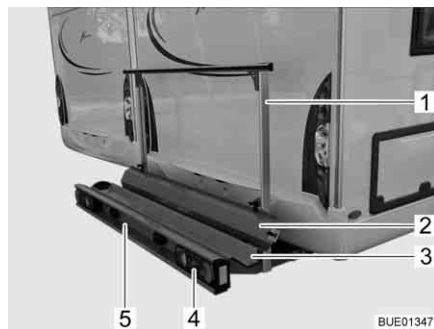
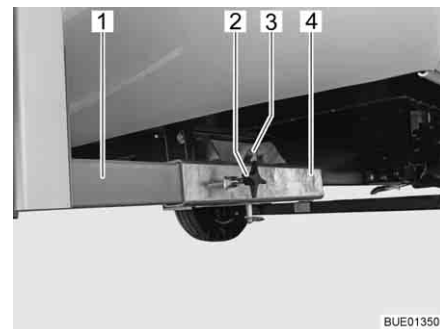

Fig. 8 Load rack
Fig. 9 Attachment to vehicle
The load rack (Fig. 8) permits transport of a motorcycle or a motor scooter weighing up to 130 kg.
- Rack trough (Fig. 8,3) and retaining clip (Fig. 8,1) with attachment to vehicle (Fig. 9)
- Rear lights (Fig. 8,4)
- Vehicle licence plate light (Fig. 8,5)
- Ramp (Fig. 8,2)
The two side members (Fig. 9,1) of the load rack are fixed to the floor of the vehicle by means of tommy screws (Fig. 9,2) on the square drives (Fig. 9,4). The load rack is secured by a bolt (Fig. 9,3) with locking ring.